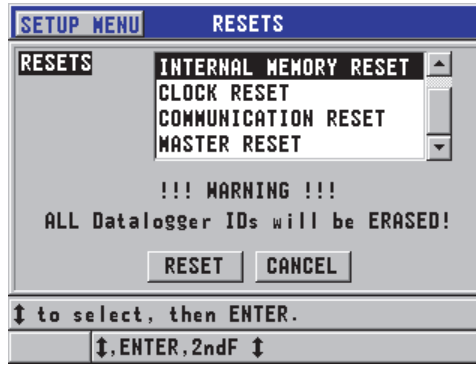

Figure 6-33 Warning message when resetting measurements
2. In the **RESETS** screen (see Figure 6-33 on page 116):